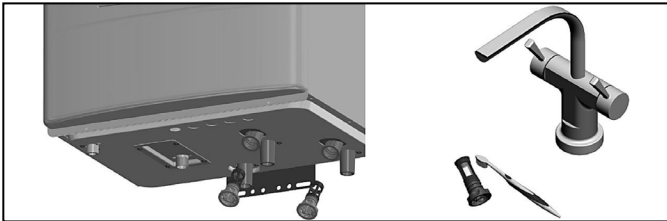

Figure 63 - Draining the Water Heater; Cleaning the Filter
5. Remove the cold water inlet filter. Then clean it with a toothbrush and clean running water. See Figure 63.